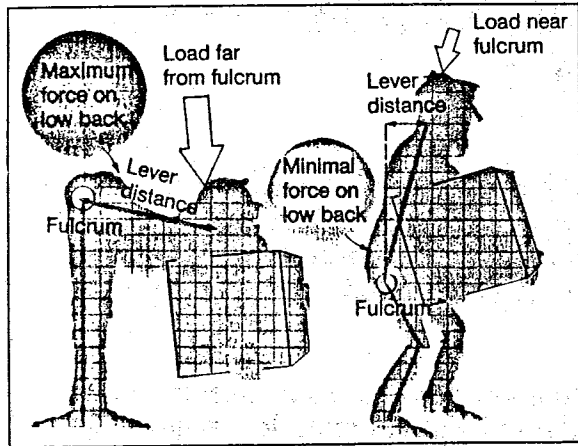

figure 1
The model in figure 1 outlines the steps that should be followed (and questions asked) when developing alternative materials-handling strategies.
Once specific materials-handling problems are identified, it is necessary to consider ways of modifying tasks to increase their efficiency and safety. As seen in figure 1, the redesign techniques that should be considered (in order of preference) are (1) elimination of the task, (2) use of a mechanical assist device to perform the task, and (3) if the task cannot be eliminated or mechanized, redesigning the manual lifting task according to the physical capabilities of the worker. A fourth alternative is suitable worker selection and training procedures. These techniques are discussed in more detail below.